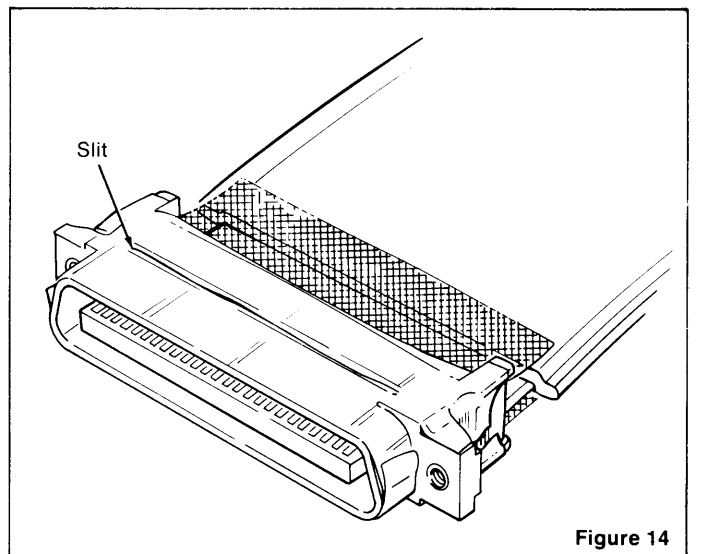

Figure 14
9. Slit the copper foil tape the length of the keyway. (Figure 14)